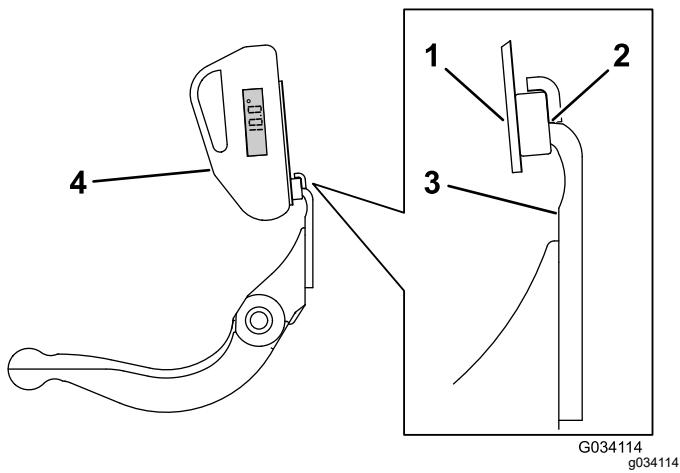

Figure 25
3. Place the angle-indicator mount on the edge of the bedknife so that the edge of the magnet mates with the edge of the bedknife (Figure 25).
- Place the angle indicator on the mount as shown in Figure 25.